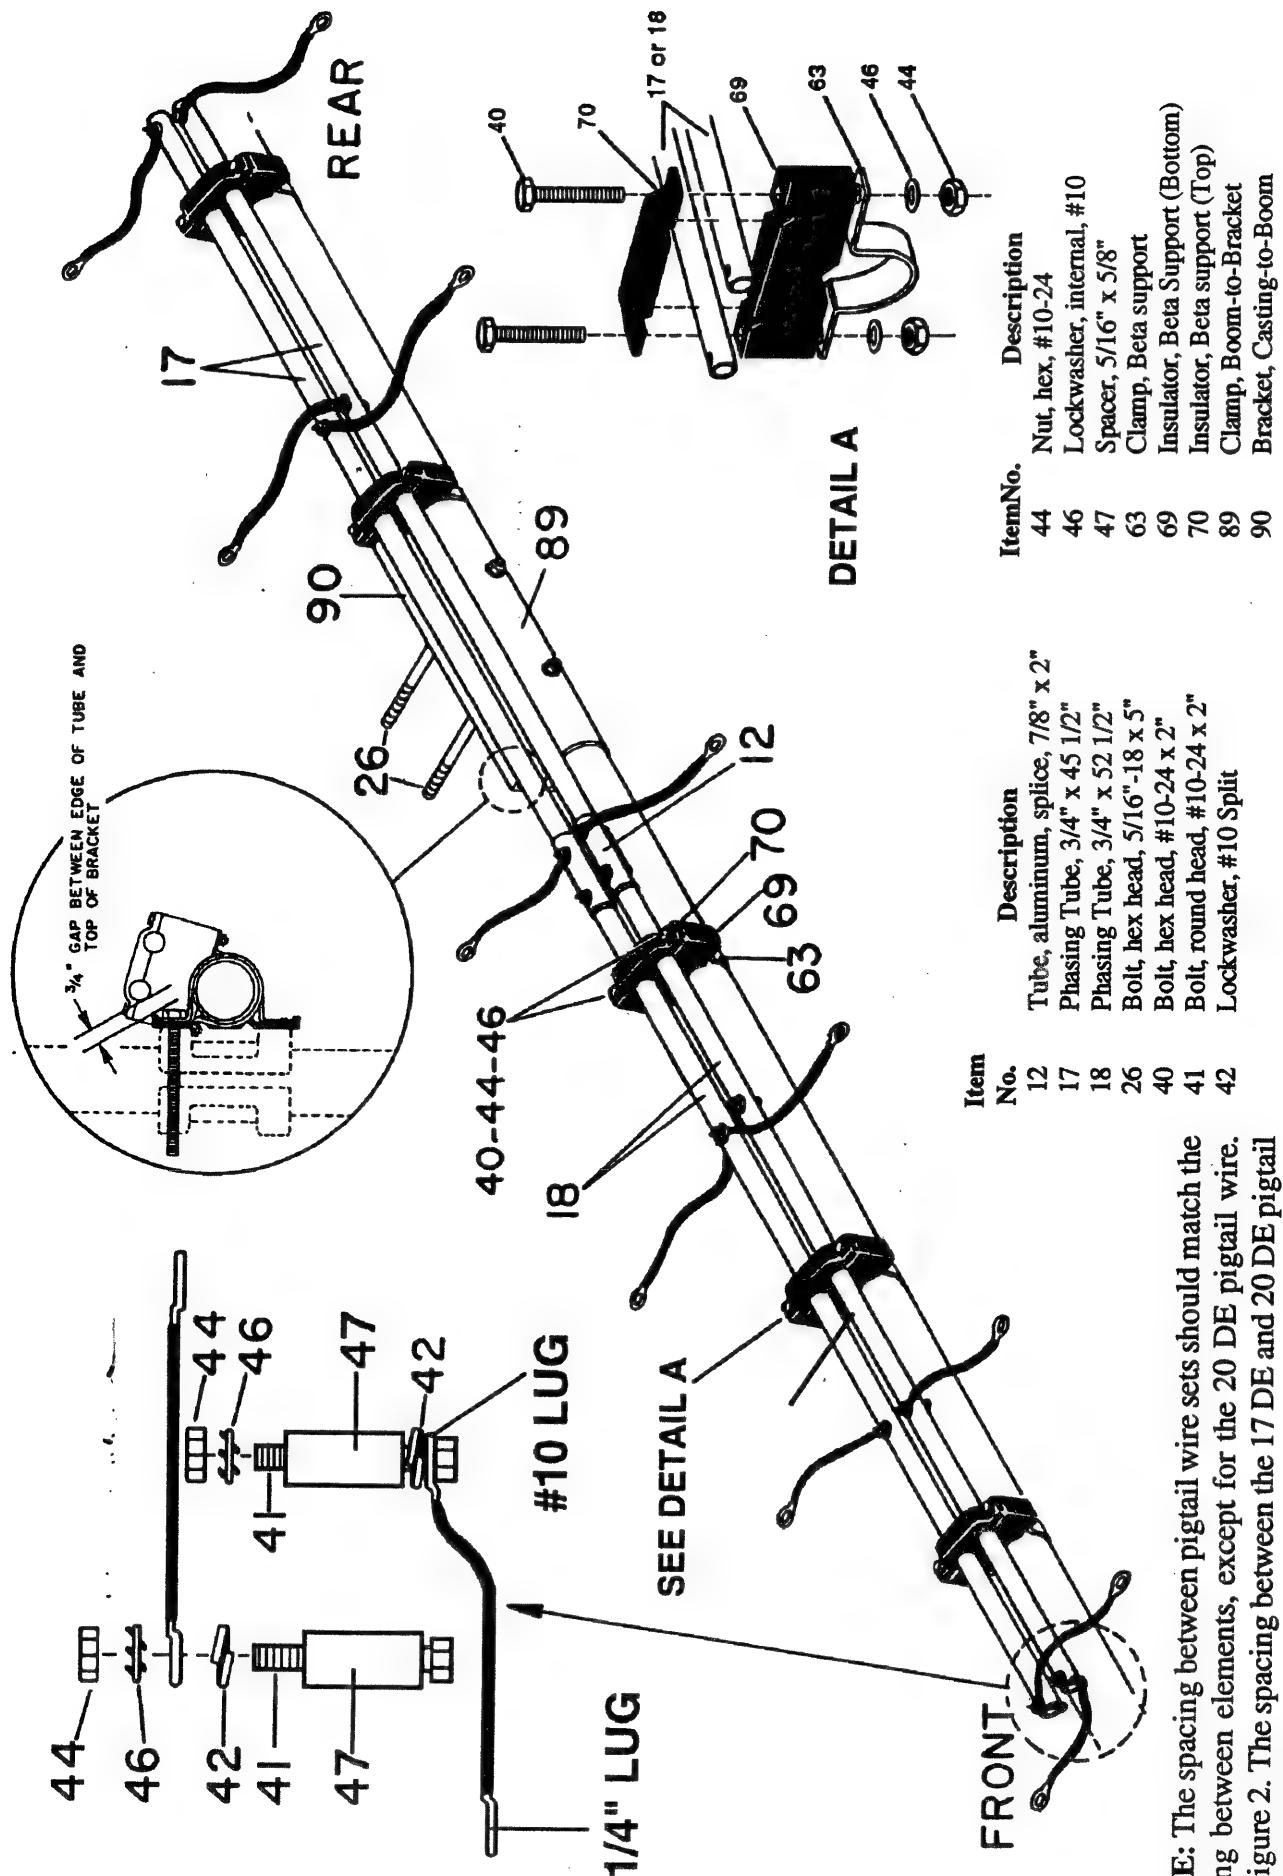

Figure 9
Select the two (2) 3/4" x 52 1/2" phasing tubes (Item No. 18), two (2) 3/4" x 45 1/2" phasing tubes (Item No. 17), two (2) 7/8" x 2" splice tubes (Item No. 12), the pigtail wire assemblies, support clamps and insulators, and hardware as shown in Figure 9. Assemble the tubes together as shown, using four (4) 10-24 x 1 1/4" hex head screws, #10 internal-tooth lockwashers, #10 split lockwashers, and 10-24 hex nuts (Item Nos. 41, 46, 42, and 44). Install a 6 1/2" pigtail wire (Item No. 65) on the rear joint of each tubing assembly before tightening the hardware. Install the remaining 6 1/2" pigtail wires in the front three (3) holes of each tubing assembly as shown, using #10 hardware. The #10 solder lug of each wire assembly should be sandwiched between the split and internal-tooth lockwashers or between the screw head and the split lockwasher as shown. This minimizes galvanic corrosion, and ensures good long-term electrical contact. Install the four (4) 9 1/2" pigtail wires (Item 58) in the rear two (2) holes of each tubing assembly as shown, using #10 hardware. Use the same assembly method as before. Before tightening the hardware, position the pigtail wires as shown.
Select the five (5) sets of support clamp (Item 63), bottom support insulator (Item 69), top support insulator (Item 70), 10-24 x 2" screws, #10 internal-tooth lockwashers, and 10-24 hex nuts as shown in the detail for figure 9. Assemble these loosely to the phasing tube assemblies and boom as shown.
If you did not use a temporary mast, rotate the phasing tube assembly on the boom and install the top two mast bracket bolts (5/16 - 18 x 5") as shown in Figure 9. Rotate the assembly back into place and position them so that the closest phasing tube is 3/4" from the top flange of the mast bracket. You should be able to insert your fingers between the phasing tube and mast bracket. Slide the support clamps along the boom until the front of the phasing tubes is 2 3/4" from the center of the F10DE bracket. Ensure that both tubes are even and that the pigtai wire attachment screws are vertical.